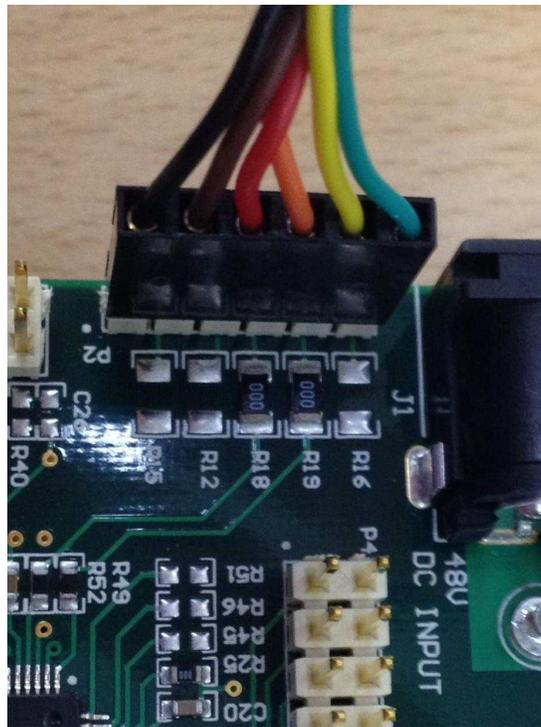

Figure 2. Cable Connections
4. Attach the USB-to-serial cable. Pin 1 of P2 should be connected to the black wire of the cable SIP connector, as shown in Figure 2.
1. Ensure that the USB-to-serial cable is plugged in correctly as per Figure 2.